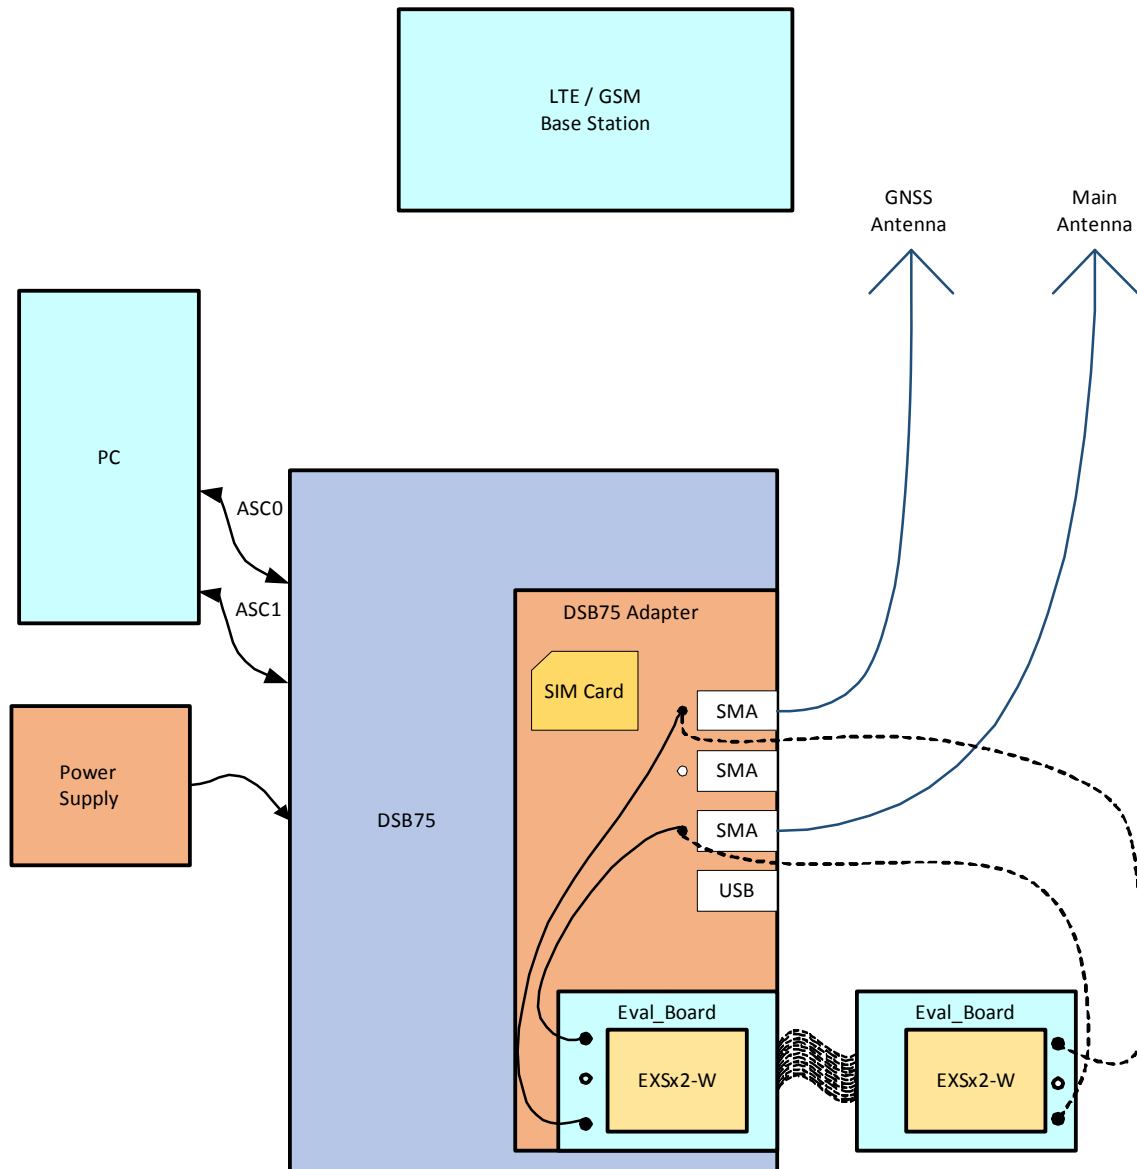

Figure 65: Reference equipment for type approval
- For RF performance tests a mini-SMT/U.FL to SMA adapter with attached 6dB coaxial attenuator is chosen to connect the evaluation module directly to the GSM/GNSS test equipment instead of employing the SMA antenna connectors on the EXSx2-W-DSB75 adapter as shown in Figure 65. The following products are recommended: